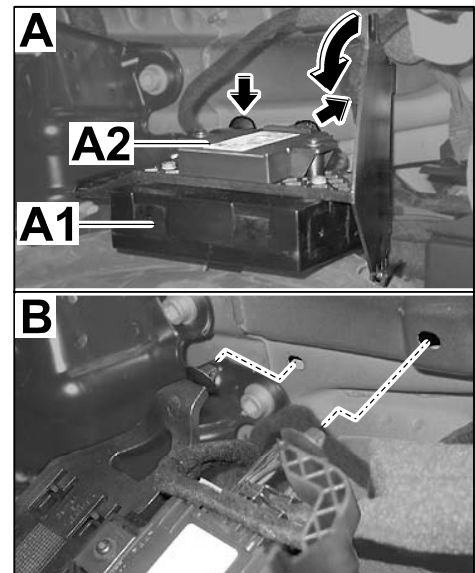

Figure 6
- 1.8 Loosen the two clips ⇒ *Figure 6 -A, arrows-* on the support for the rear-end control unit ⇒ *Figure 6 -A1-* together with the tilt sensor control unit (⇒ *Figure 6 -A2-* if installed ⇒ *Workshop Manual '966319 Removing and installing control unit for tilt sensor - section on "Removing"*) and lay support aside ⇒ *Figure 6 -B-*.